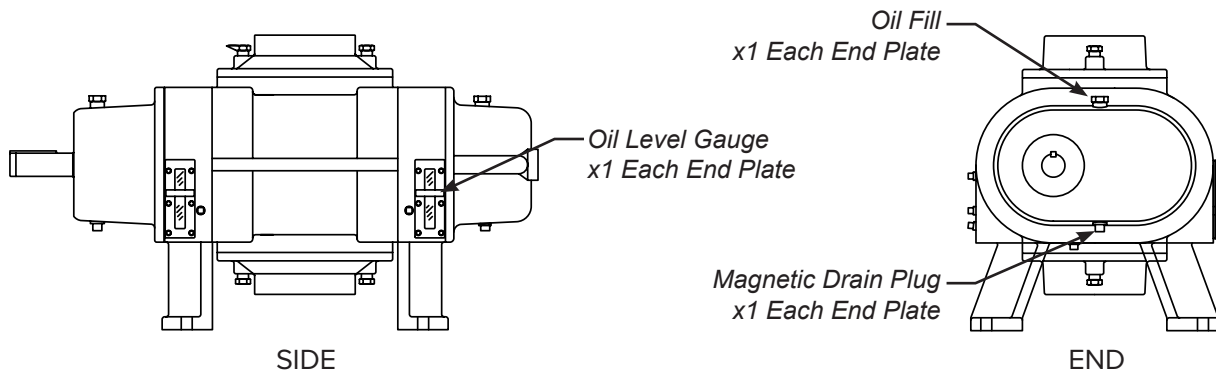

FIGURE 9
2. Pour oil through fill hole slowly until oil appears in oil sight glass. Slowly bring oil up to proper level (see Figure 9).